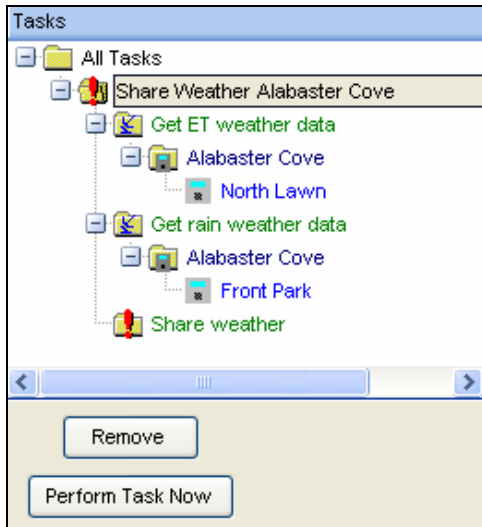

Figure 12.2.3
- This will add the **Share weather** function to the task that you are currently building (Figure 12.2.3).